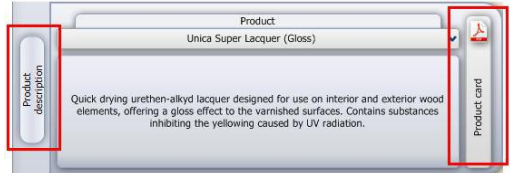

Fig. 238 – Product description pane
- The colour will be added to the palette and will be displayed in a form of a square (Fig. 238);
from the same group, for example to compare them. This pane also enables the User to gain access to detailed technical product specifications in PDF format, available online at Tikkurila's website. The access can be gained after left-clicking the button **Product Card**  (Fig. 238).